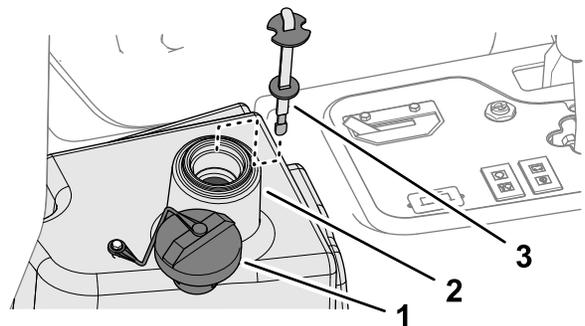

Figure 95
4. Fill the reservoir (Figure 95) with approximately 22.7 L (6 US gallons) of hydraulic fluid; refer to Hydraulic Fluid Specifications (page 61).